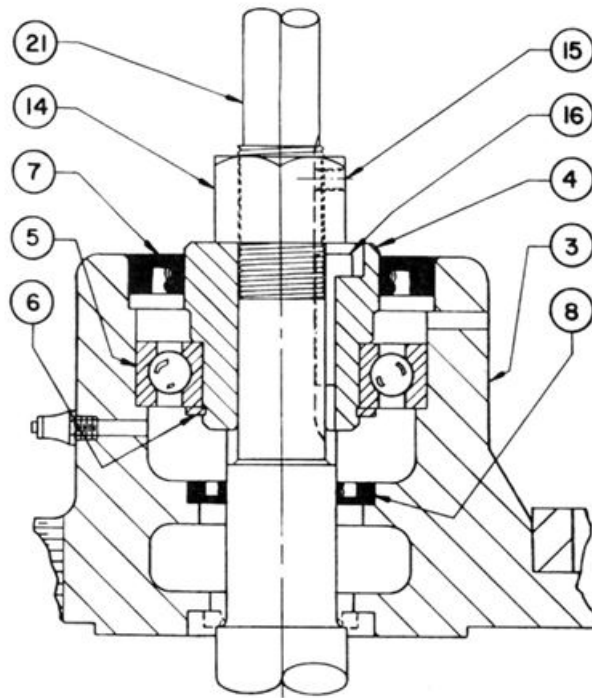

FIGURE 4
Motor may be removed from motor support. Remove plate, bolts, nuts and washers (10, 10A, 108) holding motor support (1) and thrust bearing housing (3) to support plate (29). Slide motor support (1) up and off thrust bearing housing (3). Unscrew column bolts (11) to separate column (23) from thrust bearing housing (3), illustration Figure 4 may be helpful.
1. Make sure the electrical service is disconnected. Remove motor cap screws (2A) and lift motor from motor support (1). Remove coupling insert (128) and the bottom coupling half (12C) from pump shaft (21). Also remove coupling shaft key (13). Refer to Fig. 4.
2. Remove Allen head set screw (15) from hex adjusting nut (14) and remove hex nut by turning it counterclockwise looking down onto shaft.
3. Remove gib key (16) from bearing adaptor (4) by raising and lowering shaft until key works up until it can be removed with pliers. Remove top bearing lip seal (7) by piercing with a screwdriver and prying out from thrust bearing housing (3). Lift the entire bearing assembly consisting of bearing adaptor (4) and bearing (5), up and out of the thrust bearing housing (3). Removal of the bottom thrust bearing housing lip seal (8) is now possible.
4. Remove thrust bearing (5) from bearing adaptor (4).
5. To re-assemble, press new lip seal (8) into bottom of thrust bearing housing (3). Hand-pack thrust bearing (5), spring up, with grease. Next, press thrust bearing (5) onto bearing adaptor (4) with the wider space between the bearing races facing up. This is an angular contact bearing and it must be installed correctly. If "thrust" is stamped on inner race, position up-if on outer race, position down.
6. Slide thrust bearing assembly over shaft and gently tap top of the adaptor (4) with a clean block of wood to seat on housing shoulder. Line up adaptor key slot with pump shaft key slot and insert gib key (16). Make sure gib key (16) is flush with or below top of bearing adaptor (4). Gently tap lip seal (7) spring side down into housing (3) making sure it is flush with housing.
9. Replace bottom coupling half (12C) on pump shaft and insert shaft coupling key (13). Replace the motor support (1) and secure with four (4) bolts, nuts and washers (10, 10A, 108). Place the motor on the motor support (1) and jog starter to re-check motor rotation. Replace coupling insert and engage coupling halves. Lock all set screws.